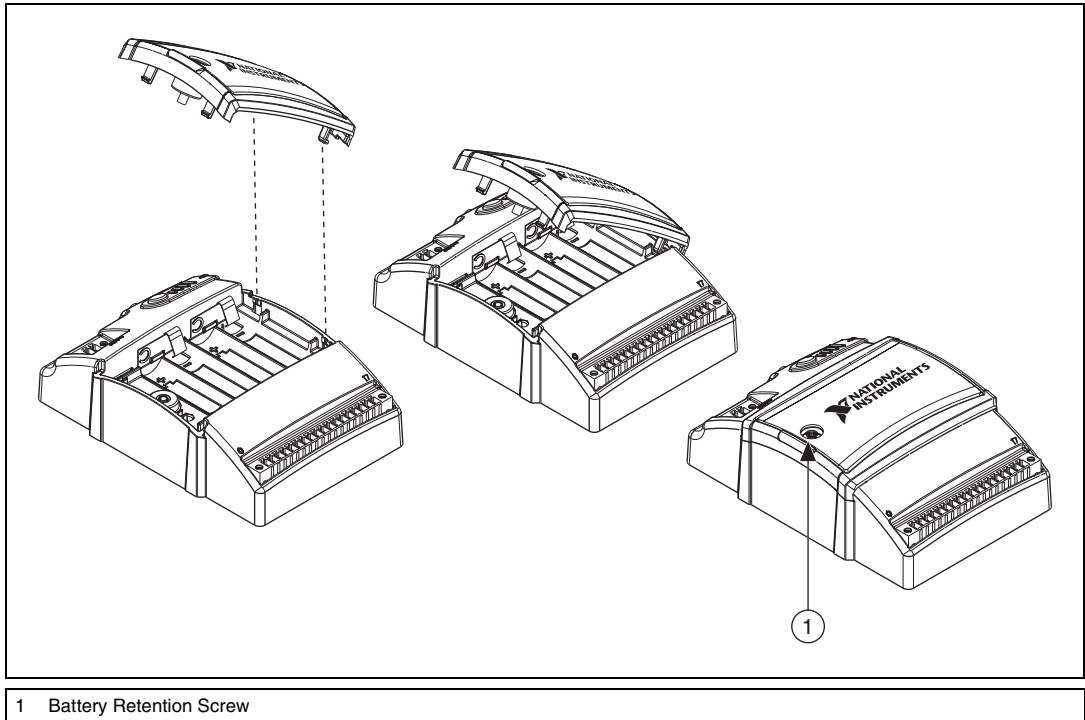

Figure 11. NI WSN-3202 Battery Compartment
1. Loosen the battery compartment retention screw and remove the compartment cover, as shown in Figure 11.